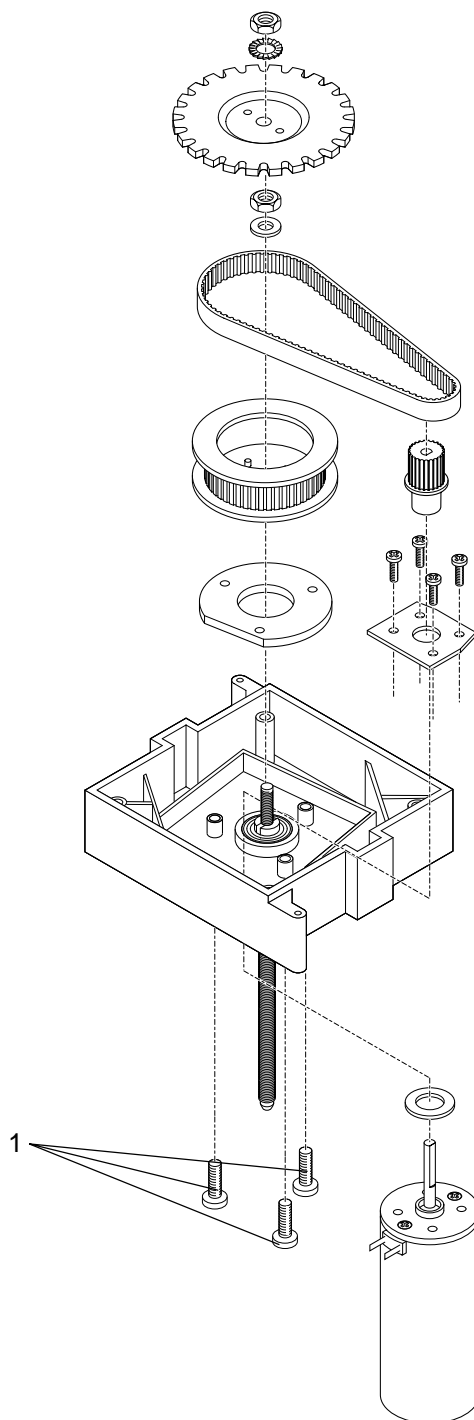

Fig. 1
new: **35217400 Screw M4x10mm (1) (Fig.1)**
- The screws A-0026 and the washers 09116005 will be replaced by the screws 35217400 (see Fig.1 ).